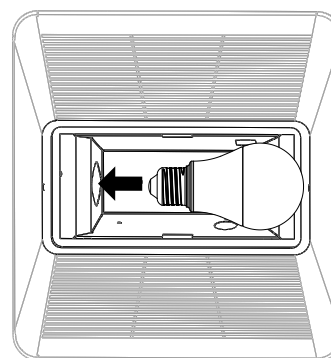

Fig. 21
- Screw light bulb into place. See figure 21.